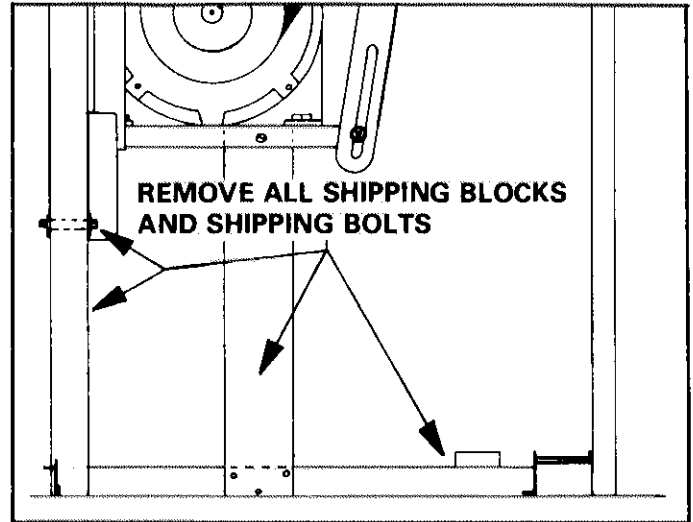

FIGURE 13
- 2 - Remove **all** shipping blocks and shipping bolts from unit. See Figure 13.